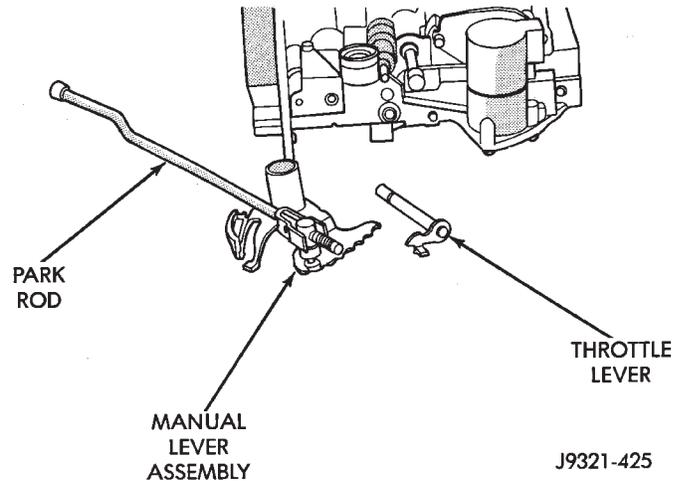

Fig. 74 Manual And Throttle Lever
(17) Remove manual lever and throttle lever (Fig. 74). Rotate and lift manual lever off valve body and throttle lever shaft. Then slide throttle lever out of valve body.